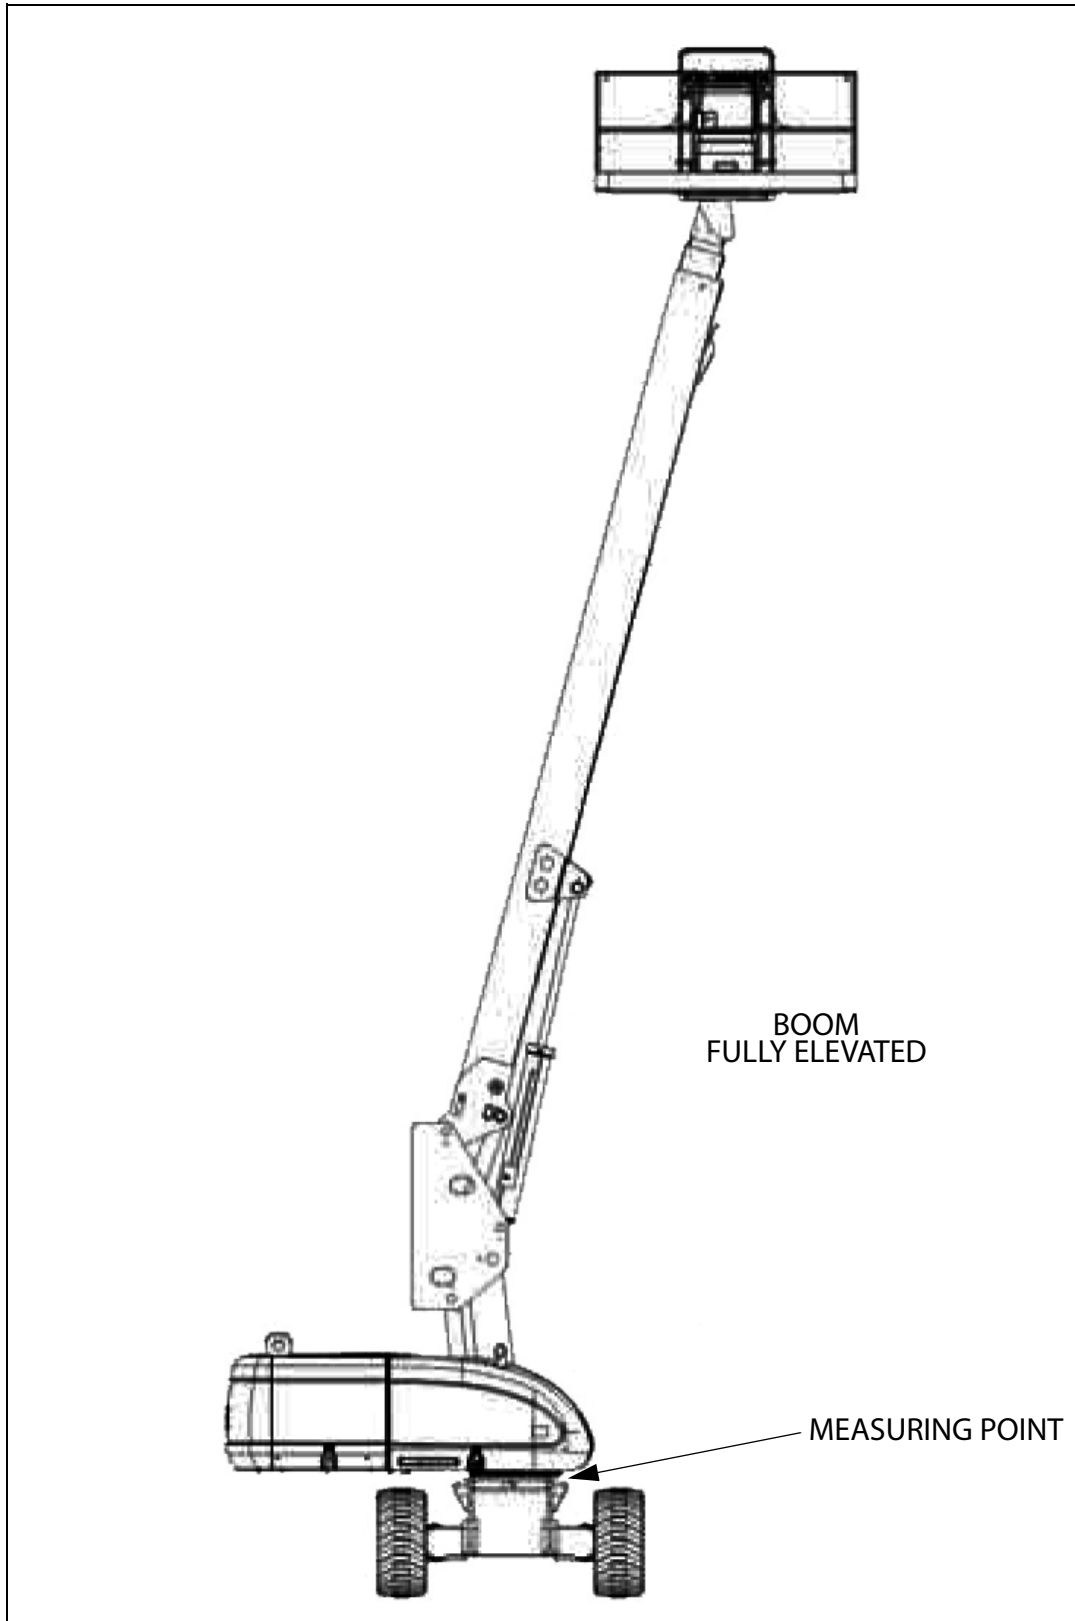
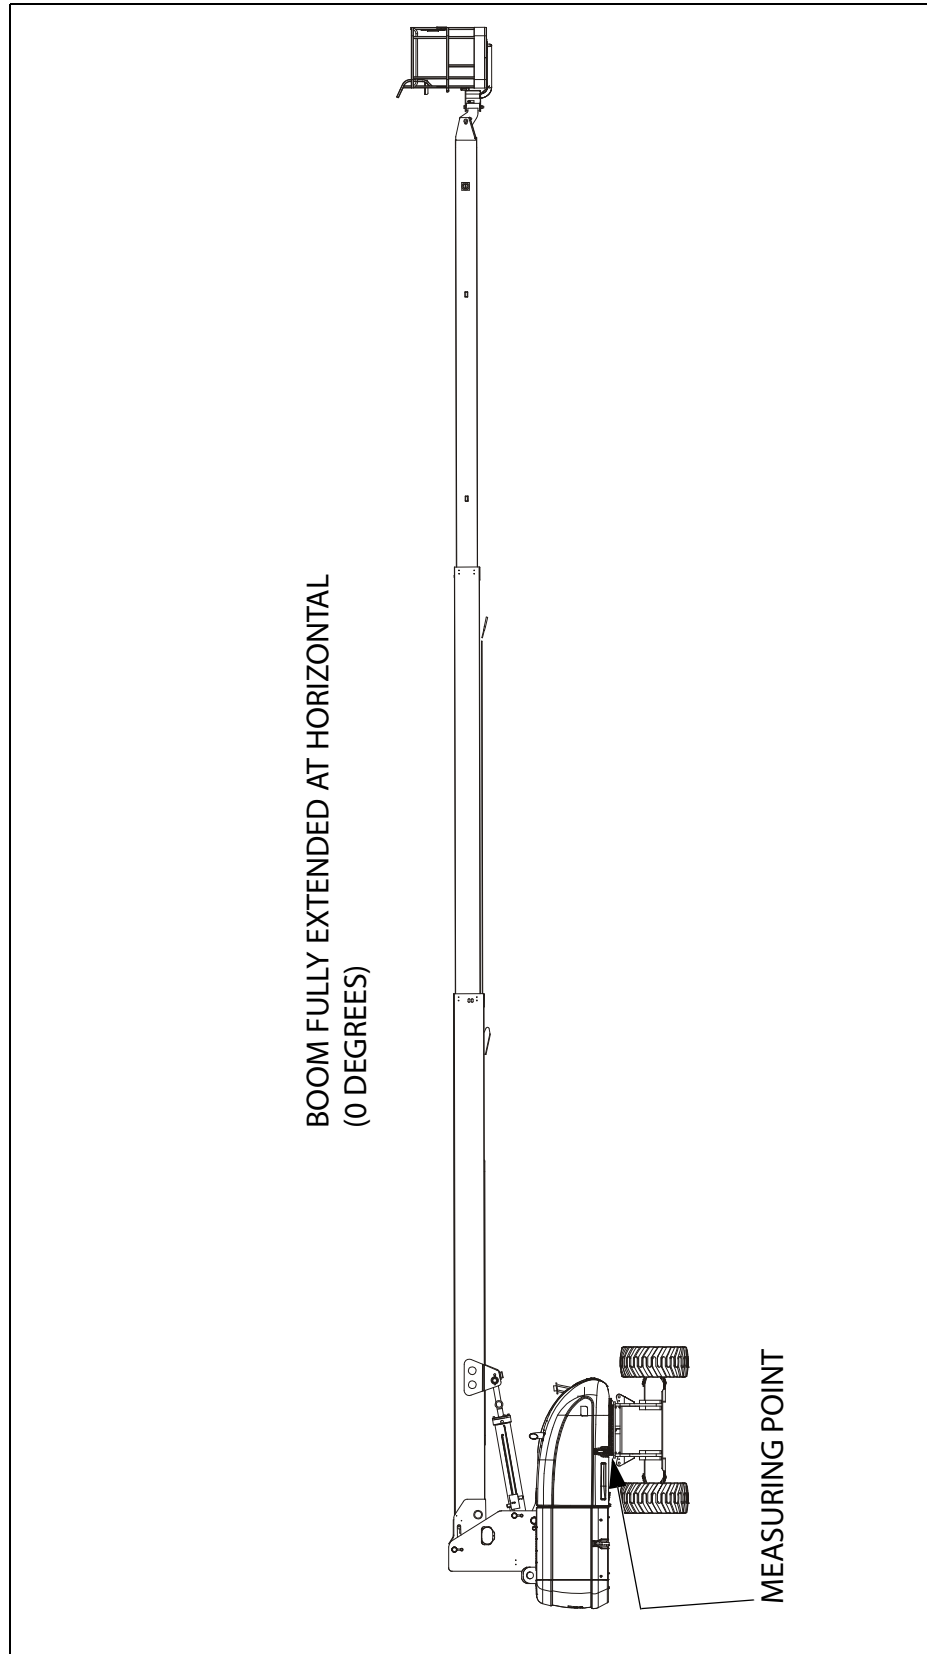
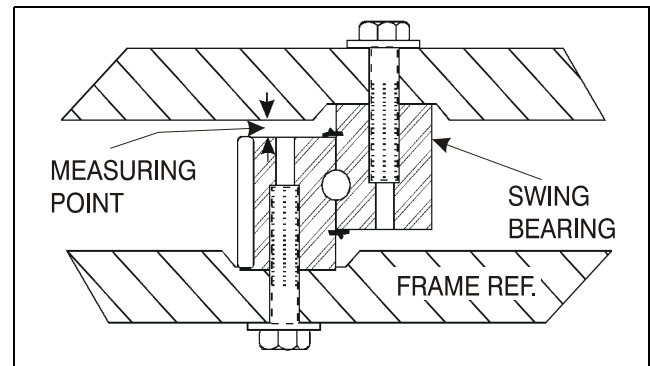

Figure 3-75. Swing Bearing Tolerance Boom Placement - Sheet 1 of 2
Figure 3-76. Swing Bearing Tolerance Boom Placement - Sheet 2 of 2
Figure 3-79. Swing Bearing Tolerance Measuring Point.
- a. Elevate the fully extended main boom to horizontal. (See Figure 3-76.)
- a. Elevate the fully retracted main boom to full elevation. (See Figure 3-75.)
1. From the underside of the machine, at rear center, with the main boom fully elevated and fully retracted, as shown in Figure 3-75., Swing Bearing Tolerance Boom Placement - Sheet 1 of 2, using a magnetic base dial indicator, measure and record the distance between the swing bearing and turntable. See Figure 3-79., Swing Bearing Tolerance Measuring Point.
2. At the same point, with the main boom at horizontal and fully extended, as shown in Figure 3-76., Swing Bearing Tolerance Boom Placement - Sheet 2 of 2. Using a magnetic base dial indicator, measure and record the distance between the swing bearing and turntable. See Figure 3-79., Swing Bearing Tolerance Measuring Point.